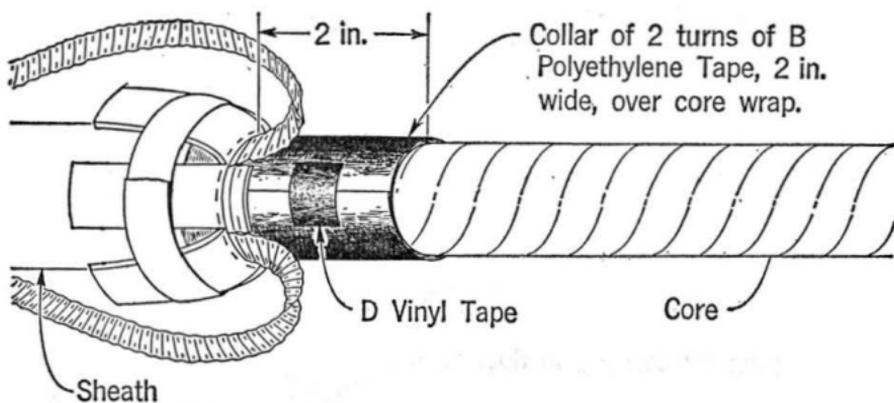

Fig. 5
2.06 Carefully fold back the long metal strips and tape to the sheath. **Do not bend sharply.** Bend the short metal tabs away from the core wrapper and place a collar of two turns of 2-inch wide B Polyethylene Tape as illustrated in Fig. 5. The collar should be wrapped tightly and the inner and outer edges held in position with a short length of D Vinyl Tape.